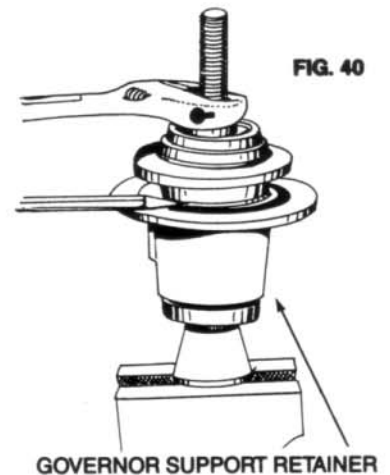

FIG. 40
- H. Spin **5/8 NUT** onto **PULLER SHAFT** and tighten until cup is installed to depth stop. (Fig. 40)